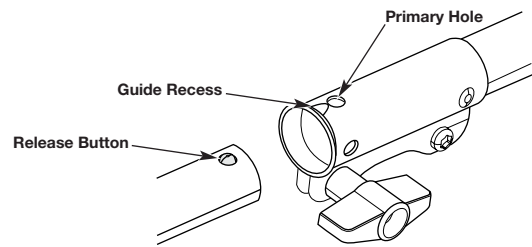

Fig. 4
4. Align the release button with the guide recess (Fig. 4).
3. Press and hold the release button (Fig. 4).